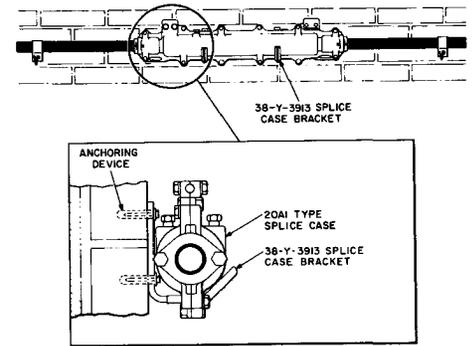

Fig. 12—Mounting Splice Case Close to Wall With 38-Y-3913 Splice Case Bracket
4.10 Where it is desirable to place a splice case close to a wall, a 38-Y-3913 splice case bracket may be used, as shown in Fig. 12.